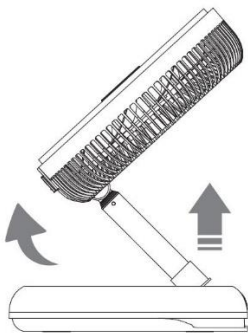

Figure 2
- Pull the fan head according to the direction of arrow (Figure 2).